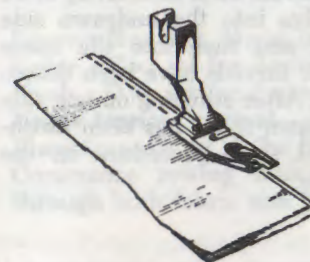

Fig. 43
- Place a piece of fabric on top of the other so that their right sides face each other. Right edge of bottom piece should protrude about 1/2" beyond right edge of top piece (Fig. 43).